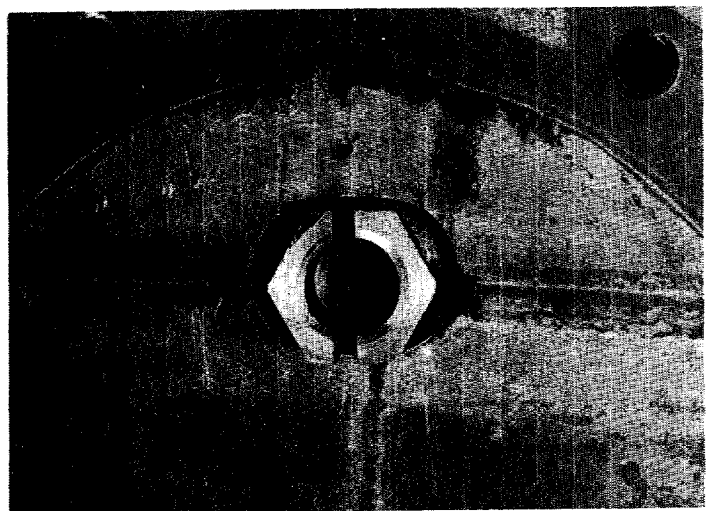

FIGURE 28 - Float Valve Seat
- e. Clean or replace the float valve seat shown in Figure 28. (To remove the seat, remove the 1/4-inch angle fitting and the float seat retaining nut.)